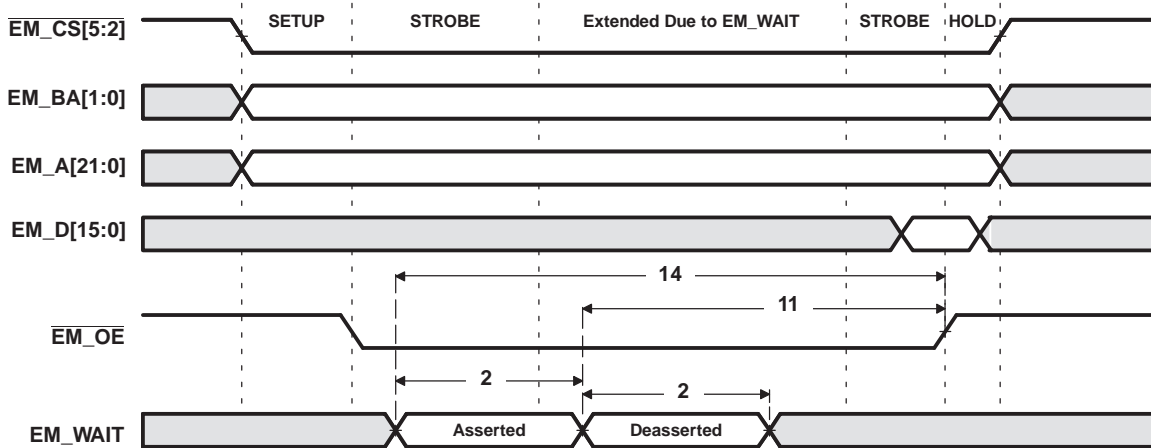
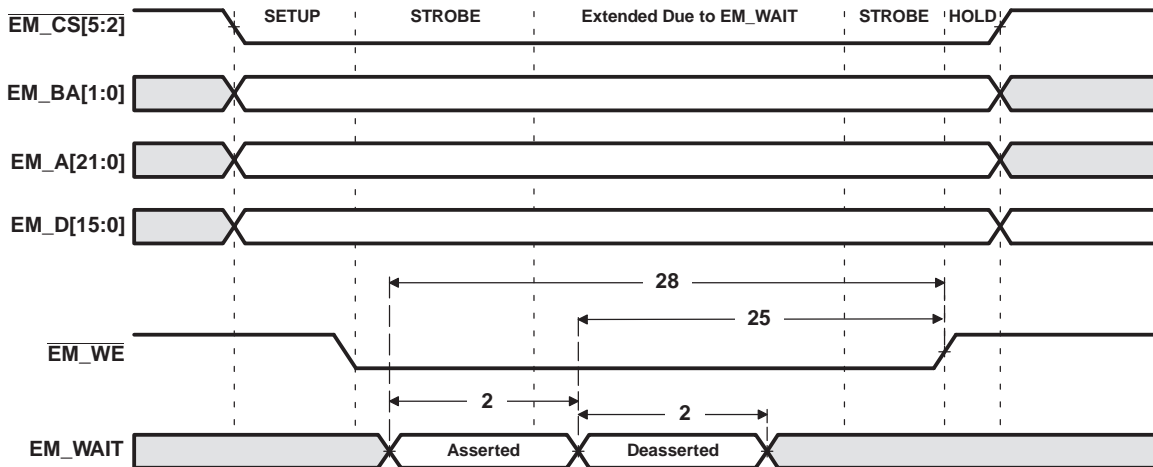

Figure 6-21. $\overline{\text{EM_WAIT}}$ Read Timing Requirements
Figure 6-22. EM_WAIT Write Timing Requirements
- (1) E = SYSCLK5 period in ns for EMIFA. For example, when SYSCLK1 is 540 MHz, use E = 11.11 ns.
(2) Setup before end of STROBE phase (if no extended wait states are inserted) by which EM_WAIT must be asserted to add extended wait states. Figure 6-21 and Figure 6-22 describe EMIF transactions that include extended wait states inserted during the STROBE phase. However, cycles inserted as part of this extended wait period should not be counted; the 4E requirement is to the start of where the HOLD phase would begin if there were no extended wait cycles.